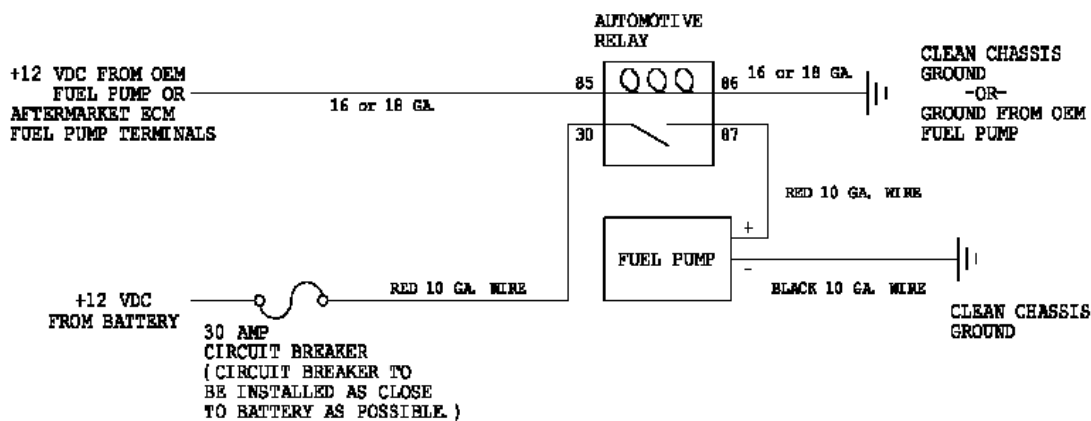

FIGURE 1-12
18. The Aeromotive fuel pump needs its own relay and 12V power wire. The use of Aeromotive fuel pump wiring kit (part # 16301) is recommended. Since the factory Ford fuel pump is pulse modulated you cannot use the factory fuel pump wires to trigger the relay. Find a suitable 12V key on ignition source for the #85 connection on the relay as shown in Figure 1-12.